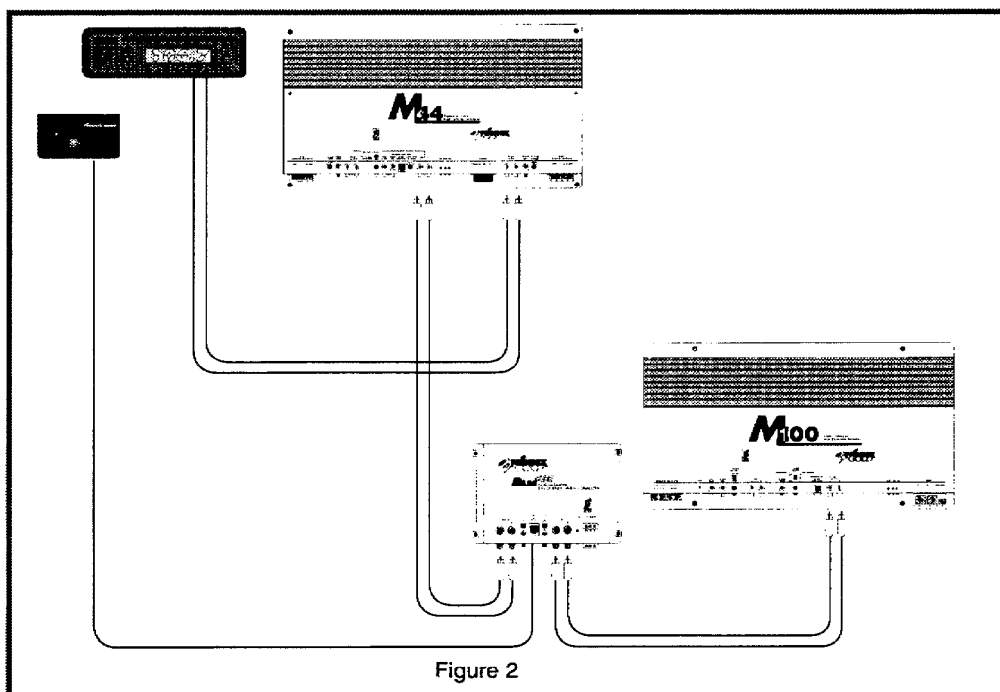

Figure 2
need subwoofers, although it makes for more impressive results if they are there. For this conversation we'll place the BassCube after the subwoofer line out of the 4-channel amplifier, before the sub amplifier (see Figure 2). After mounting the BassCube near the amplifier and doing the normal cable and power connection, we're ready to figure out how do we set the two different switches on this thing? Since the BassCube is a "unity" gain device there are NO gain or level controls to deal with. Unity gain means that whatever AC voltage you input through the BassCube is the AC voltage you get out. One volt in, one volt out. Two volts in, two volts out. Six volts in, six volts out. Got the picture? For vented boxes OR for dB "freaks" we recommend using the two (2)